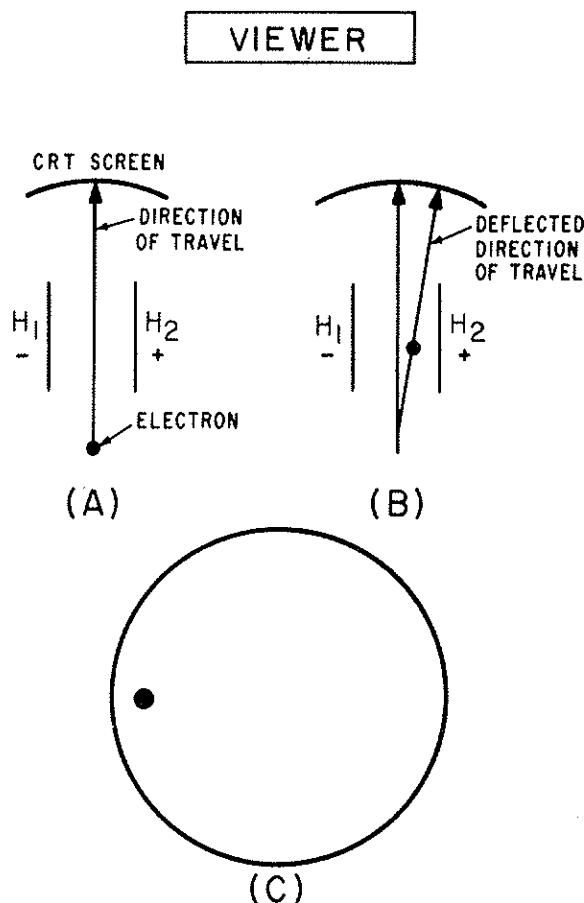

Figure 2-24.—Deflection in a CRT.
ELECTROSTATIC DEFLECTION uses principles you are already familiar with. Namely, opposites attract, and likes repel. Look at figure 2-24, view (A). Here you see an electron traveling between two charged plates H_1 and H_2 . As you can see, before the electron reaches the charged plates, called **DEFLECTION PLATES**, its flight path is toward the center of the screen. In view (B), the electron has reached the area of the deflection plates and is attracted toward the positive plate H_2 while being repelled from the negative plate H_1 . As a result, the electron is deflected to the right of the